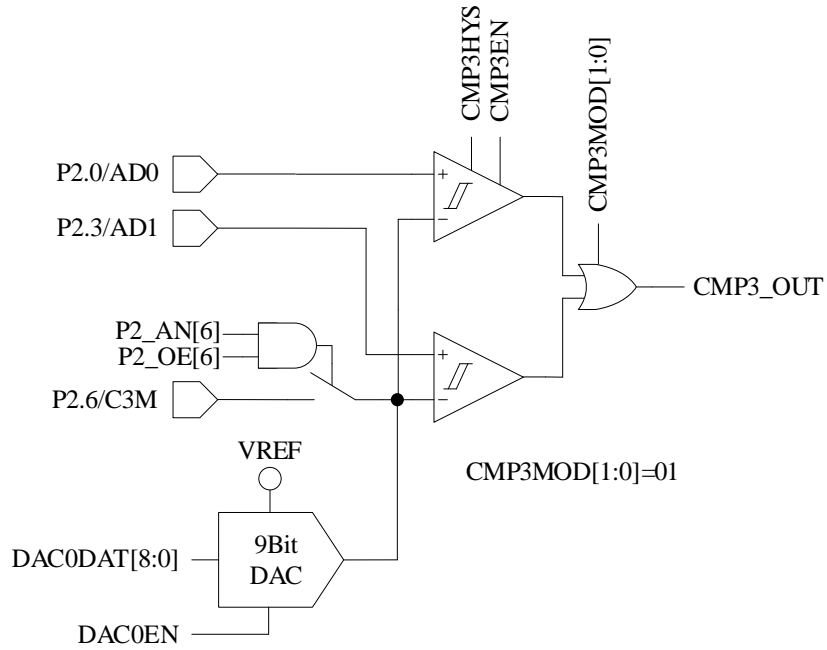

Figure 28-3 Dual-comparator Input Mode
- When CMP_CR1[CMP3MOD] = 01, CMP3 works in Dual-comparator Input Mode. The connection of input and output pins are shown in Figure 28-3.